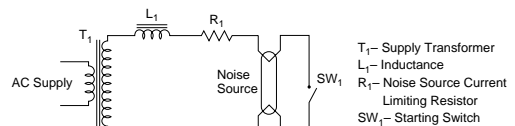

Figure 5. Circuit for AC operation of noise tubes with dual filamentary cathodes.
**AC operation of noise tubes with dual filamentary cathodes** — When operation directly from an AC source is desired and AC modulation of the noise is not objectionable, the circuit of Figure 5 is suitable. Transformer  $T$  must provide sufficient voltage to strike the discharge.  $L$  may be included in the transformer as leakage reactance but should be of a size to limit the average tube current to the specified value.  $SW$  can be
*AC operation of noise tubes with dual filamentary cathodes* — In the circuit of Figure 5 driven by 60-400Hz sine waves, these tubes generally require starting voltages on the order of 1000-2500VAC, operate at currents of 100-250mA AC, and exhibit tube drops on the order of 40-150VAC. Typical life under 60Hz conditions is 100-1000 hours, depending on the circuit parameters.